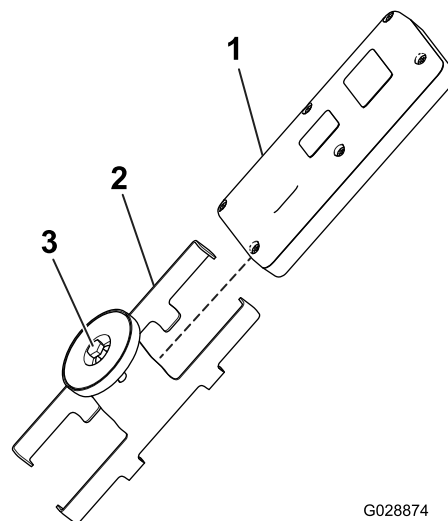

Figure 18
5. Install the handheld remote into the magnetic remote bracket, slide the halves together to form the remote, and tighten the bolt in the magnet (Figure 18).